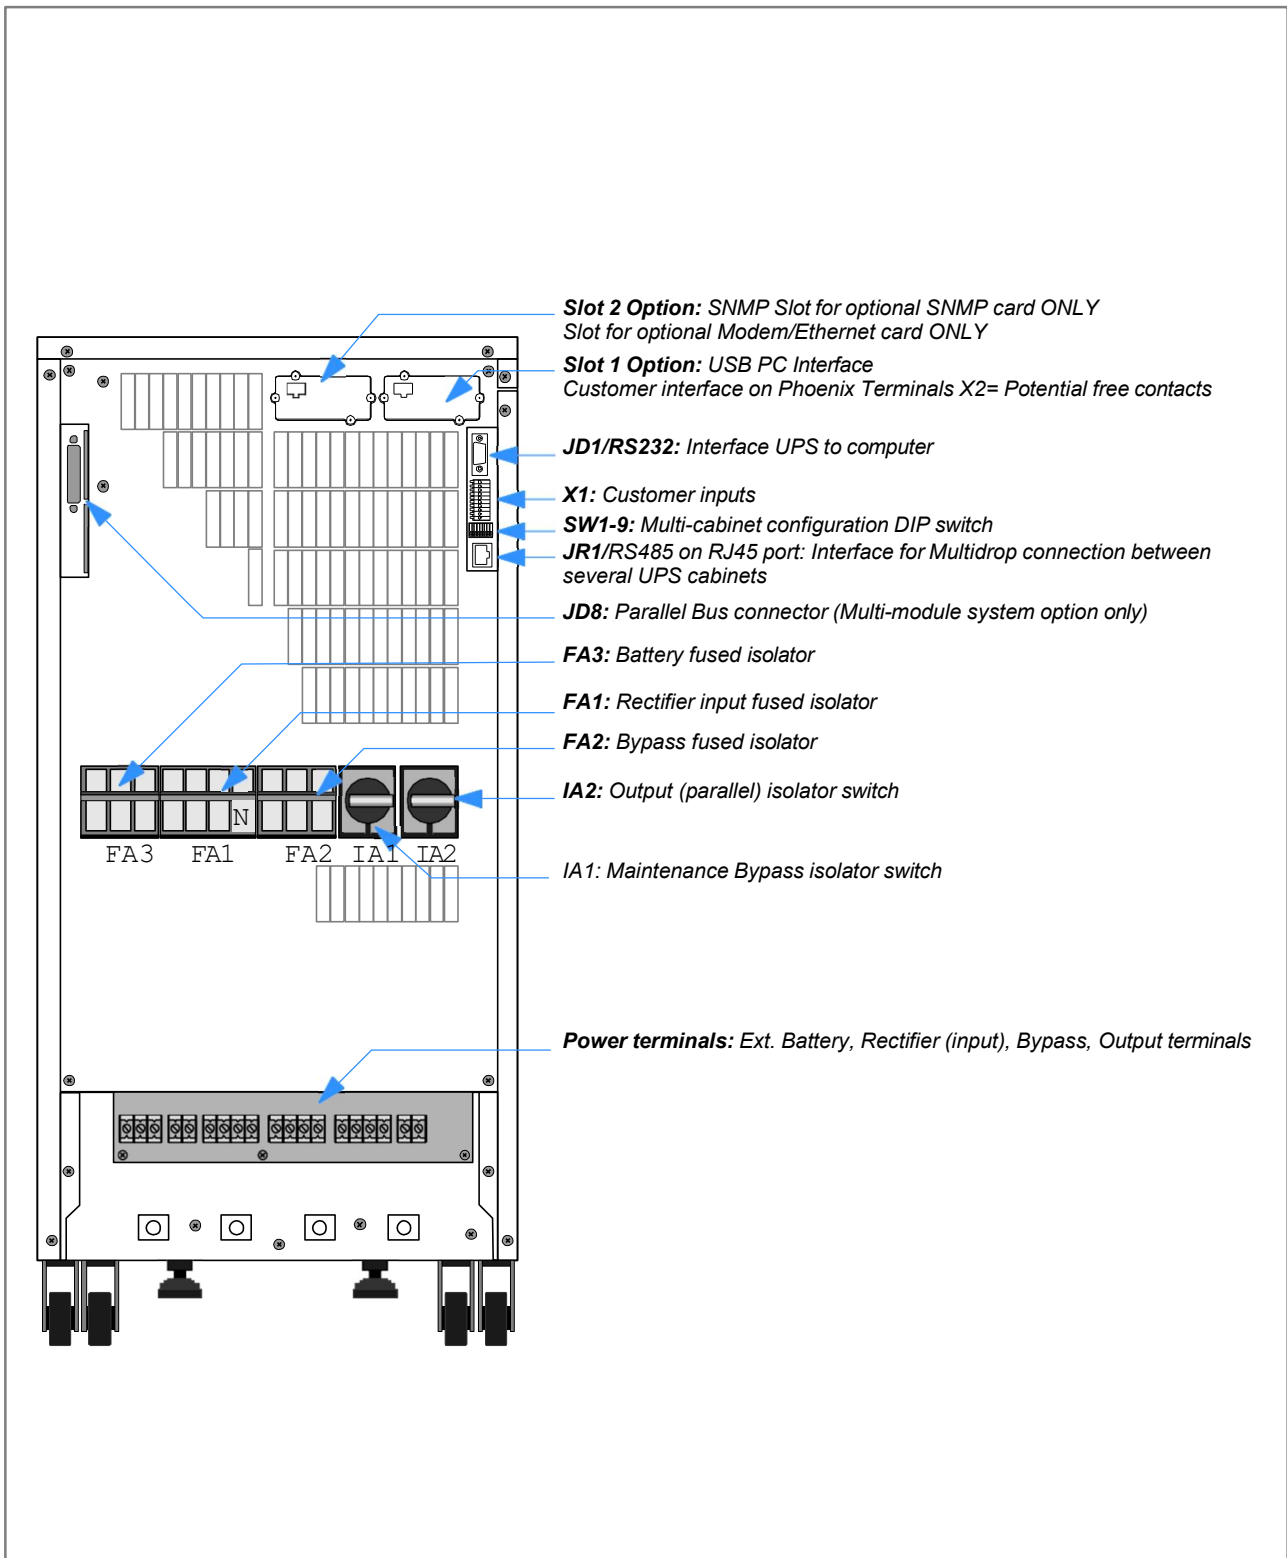

Figure 3.10 10 kVA–15 kVA Cabinet A connector details (rear view)
3. Connect the earth cable from the LV-Distribution Board to the protective earth (PE) busbar in the UPS, located adjacent to the power terminals, as shown in Figures 3.10, 3.11 and 3.12.
3. Connect the protective earth cable from the Load Distribution Board to the protective earth (PE) busbar in the UPS – located adjacent to the power terminals, as shown in Figures 3.10, 3.11 and 3.12.
2. Fit the Parallel Adaptor PCB (NW4019) to connector JD8 on all UPS-Cabinets (see Figures 3.10 and 3.12).